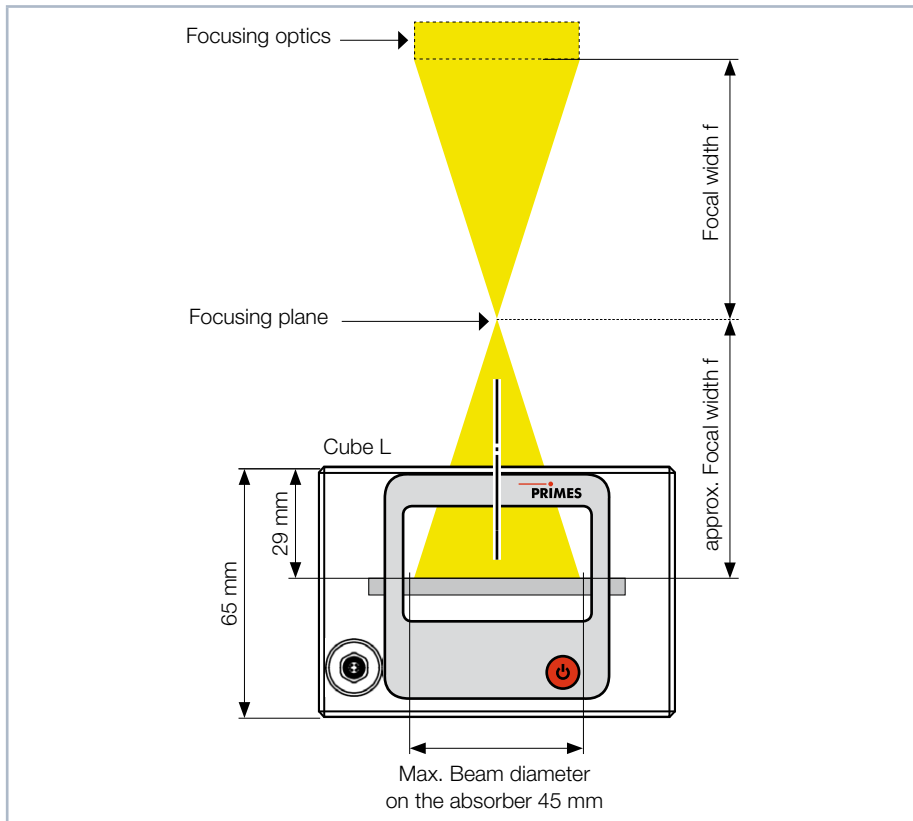

Fig. 8.1: Alignment to the laser beam
1. Align the device with the laser beam as described in chapter 8.3 on page 16 and Fig. 8.1 on page 16.